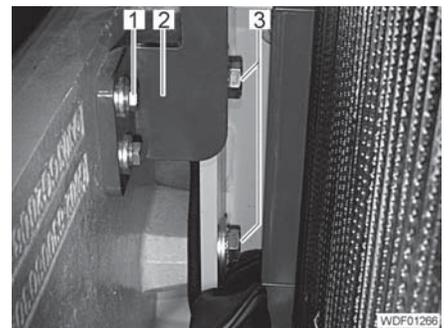

Fig. 277 Rear weight attachment
- Mark the position of the holder (Fig. 277,2) on the rear carriage.
- Unscrew 2 screws (Fig. 277,1) on both sides and remove the holder.
- Unscrew 2 screws (Fig. 277,3) on both sides.
- Screw in 2 screws (Fig. 277,3) on both sides.
- Locate 1 holder (Fig. 277,2) on both sides.
- Screw in 2 screws (Fig. 277,1) with spring lock washers and disks on both sides and tighten.